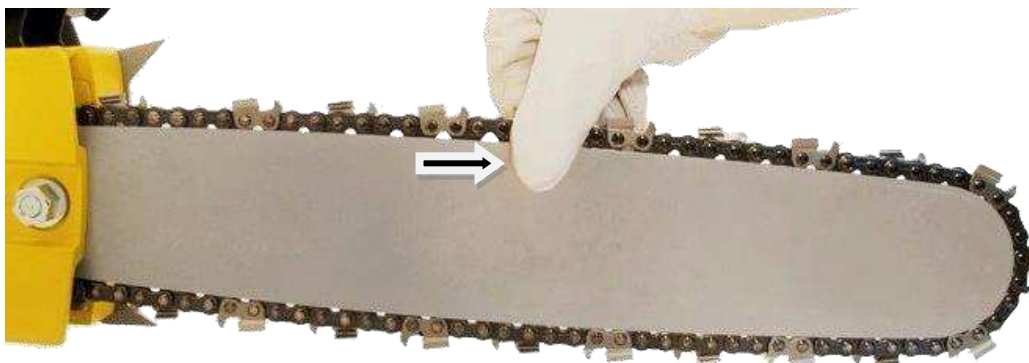

Fig. 16
- The saw chain has to touch the bottom of the chain bar. It must be possible to pull it manually over the guiding groove of the chain bar, when the chain brake is released (see fig. 16).